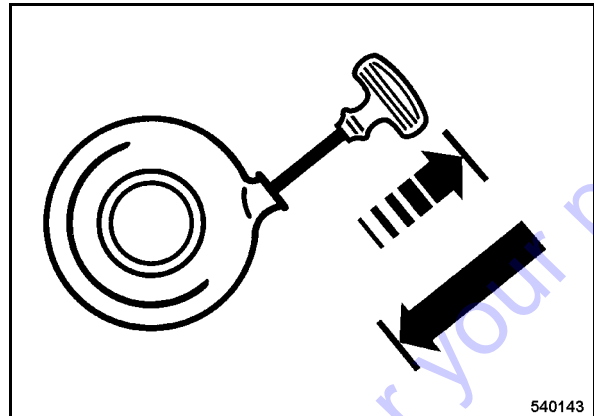

Fig. 27
- Pull the rope by the starter handle (Fig. 27) until resistance can be felt.